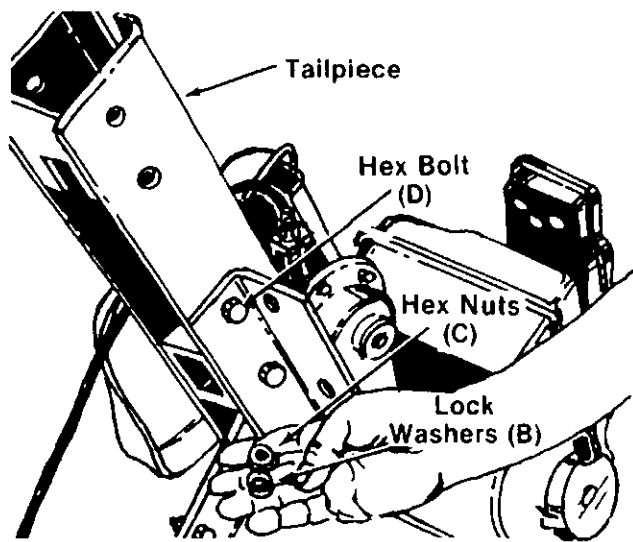

FIGURE 4.
4. Secure the tailpiece to the rear frame rails with two hex bolts (D), lock washers (B) and hex nuts (C). See figure 4. Tighten all four hex bolts and nuts securely. Two $\frac{1}{2}$ " wrenches are required.